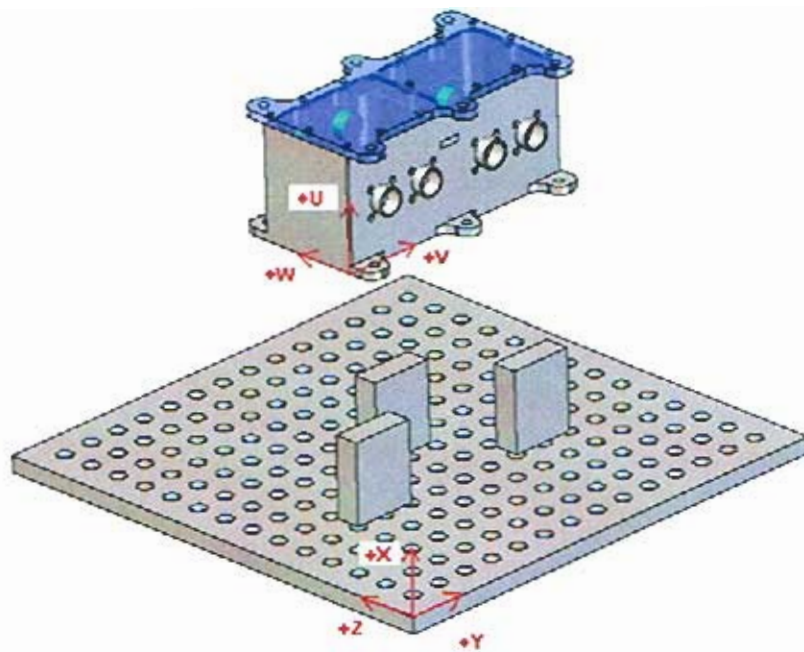

Figure 2 HCB, LOAD CELLS, LOAD PLATE, COORDINATE SYSTEMS
2. Setup and secure three load cells on the load plate (see figure 2). Measure and record the location of each load cell in the plate coordinate system (X, Y, Z), as shown in figure 2.
4. Measure the location of the box in its as-mounted position by measuring the location of the auxiliary coordinate system (U,V,W) with the CMM using the U and V edges of the box and bottom surface, as defined in figure 2 and 3. Note that the UVW-Coordinate system is fixed with respect to the unit, and must be defined as shown in Figures 2 and 3.